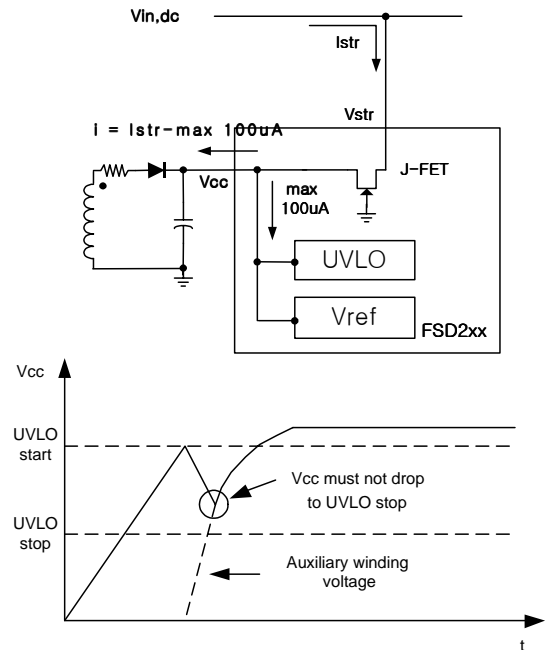

Figure 7. Charging the Vcc capacitor through Vstr
**1. Startup :** At startup, the internal high voltage current source supplies the internal bias and charges the external Vcc capacitor as shown in figure 7. In the case of the FSD210, when Vcc reaches 8.7V the device starts switching and the internal high voltage current source is disabled (see figure 1). The device continues to switch provided that Vcc does not drop below 6.7V. For FSD210, after startup, the bias is supplied from the auxiliary transformer winding. In the case of FSD200, Vcc is continuously supplied from the external high voltage source and Vcc is regulated to 7V by an internal high voltage regulator (HVReg), thus eliminating the need for an auxiliary winding (see figure 2).